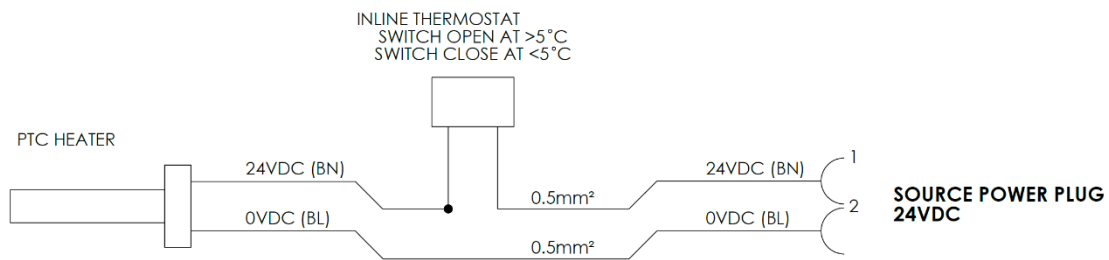

Figure 12 – DEF Heater electrical wiring details
- Connect to appropriate 12 - 24VDC power supply, as defined in Table 3, utilising the 2-pin DT Series Deutsch receptacle fitted the DEF Heater. Refer to Figure 12 for DEF Heater electrical wiring details